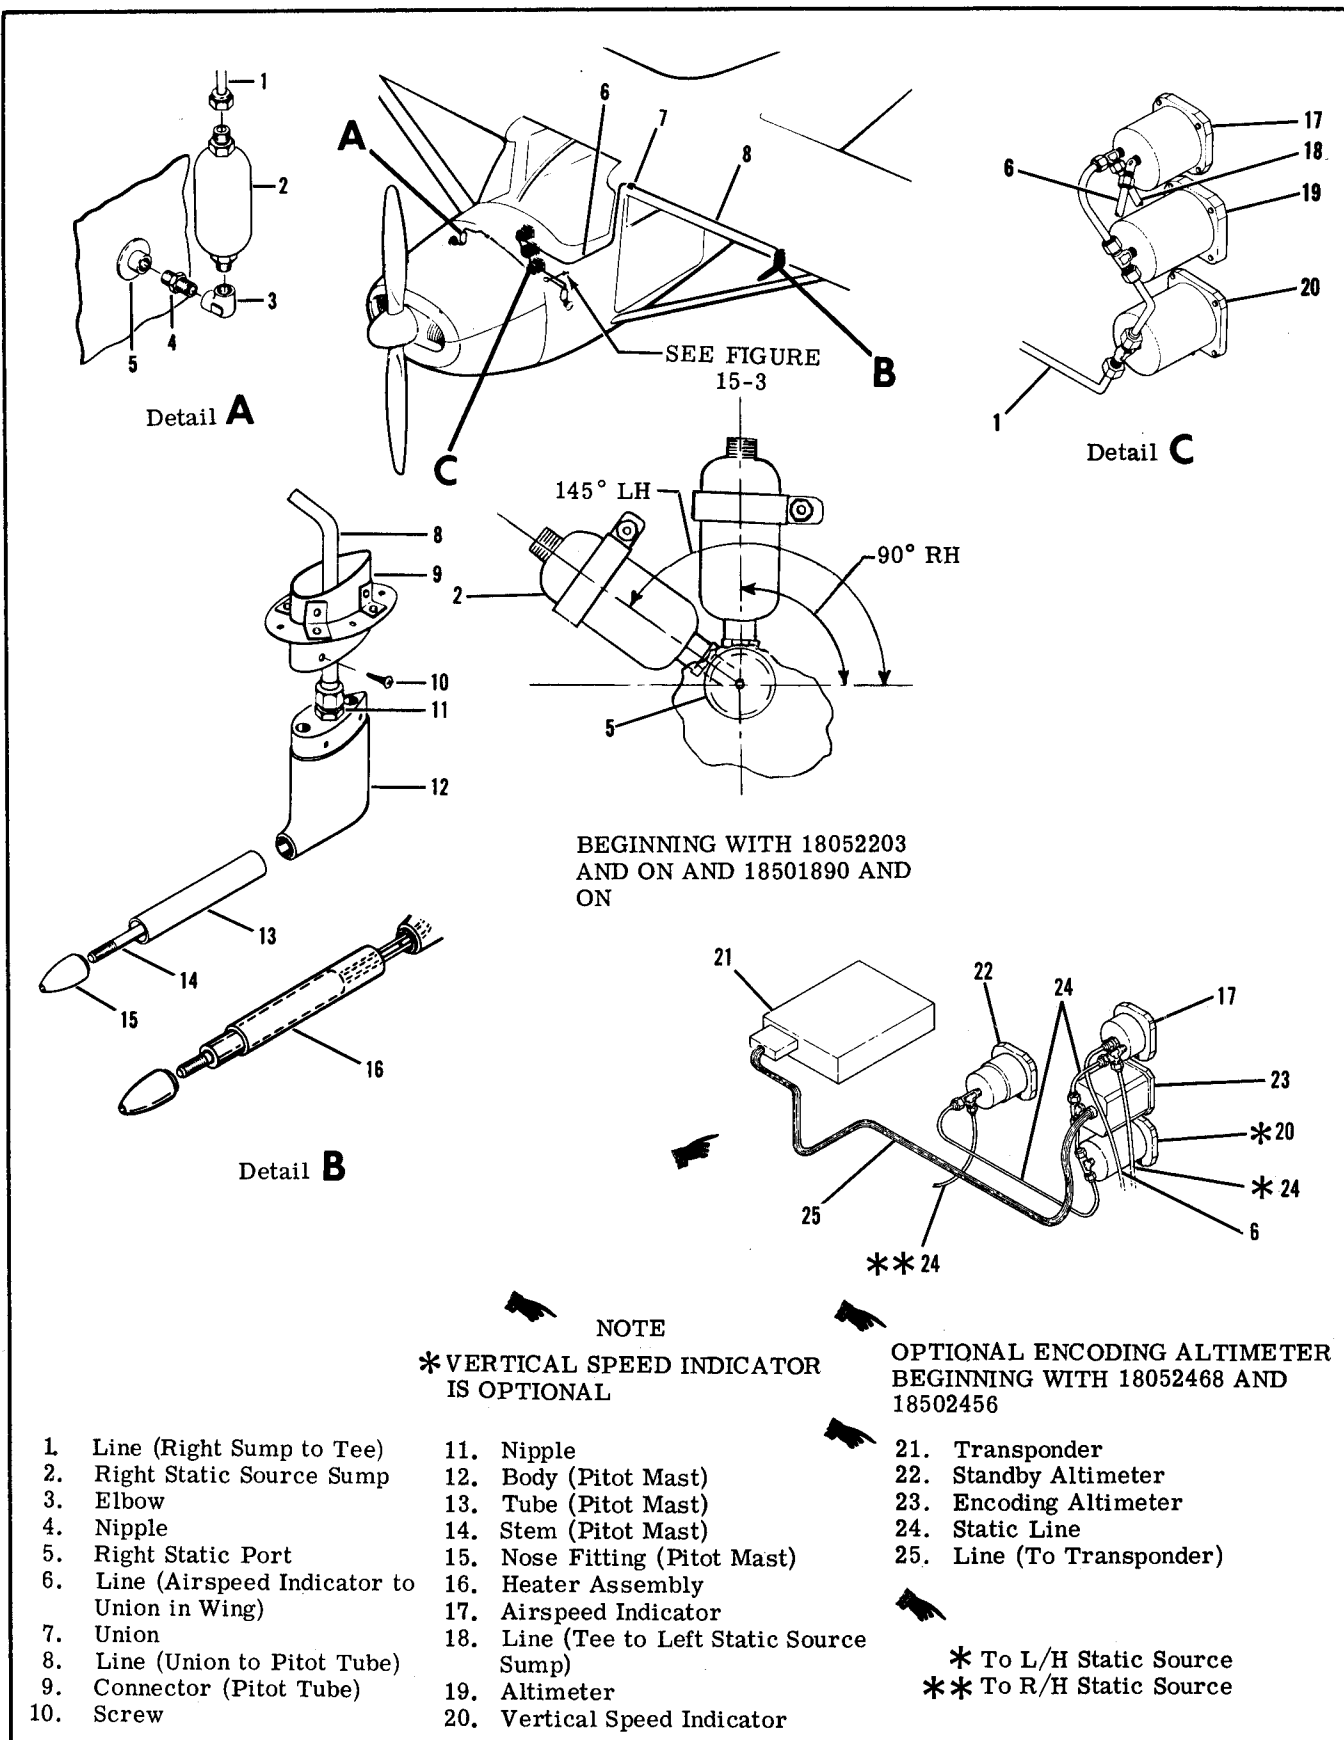

Figure 15-2. Pitot and Static Systems
#### 15-10. PITOT AND STATIC SYSTEMS. (Refer to figure 15-2.)
15-11. DESCRIPTION. The pitot system conveys ram air pressure to the airspeed indicator. The static system vents the vertical speed indicator, altimeter and airspeed indicator to atmospheric pressure through plastic tubing connected to static ports. A static line sump is installed at each source button to collect condensation in the static system. An alternate static source may be installed on the aircraft and is used only in emergencies. When used as a static source, cabin pressure is substituted for atmospheric pressure, causing instrument readings to vary from normal. Refer to Owner's Manual for flight operation using alternate static source pressure. A pitot tube heater may be installed in the pitot mast. The heating element is controlled by a switch at the instrument panel and powered by the electrical system. Beginning with aircraft 18052468 and 18502456, an encoding altimeter and a standby altimeter may be installed. The encoding altimeter supplies an altitude reading to the optional 300 or 400 transponder for signal transmission. Figure 15-2 may be used as a guide for installation and removal of the encoding altimeter.
**15-16. REMOVAL AND INSTALLATION OF COMPONENTS.** (Refer to figure 15-2.) To remove the pitot mast remove the four mounting screws on side of connector (9) and pull mast out of connector far enough to disconnect pitot line (8). Electrical connections to heater assembly (if installed) may be disconnected through wing access plate just inboard of mast. The pitot and static lines are removed in the usual manner, after removing wing access plates, lower wing fairing strip and upholstery as required. Reinstallation of tubing will be simpler if a guide wire is drawn in as tubing is removed from wing. The tubing may be removed intact by drawing it out through the cabin and right door. When replacing components of the pitot